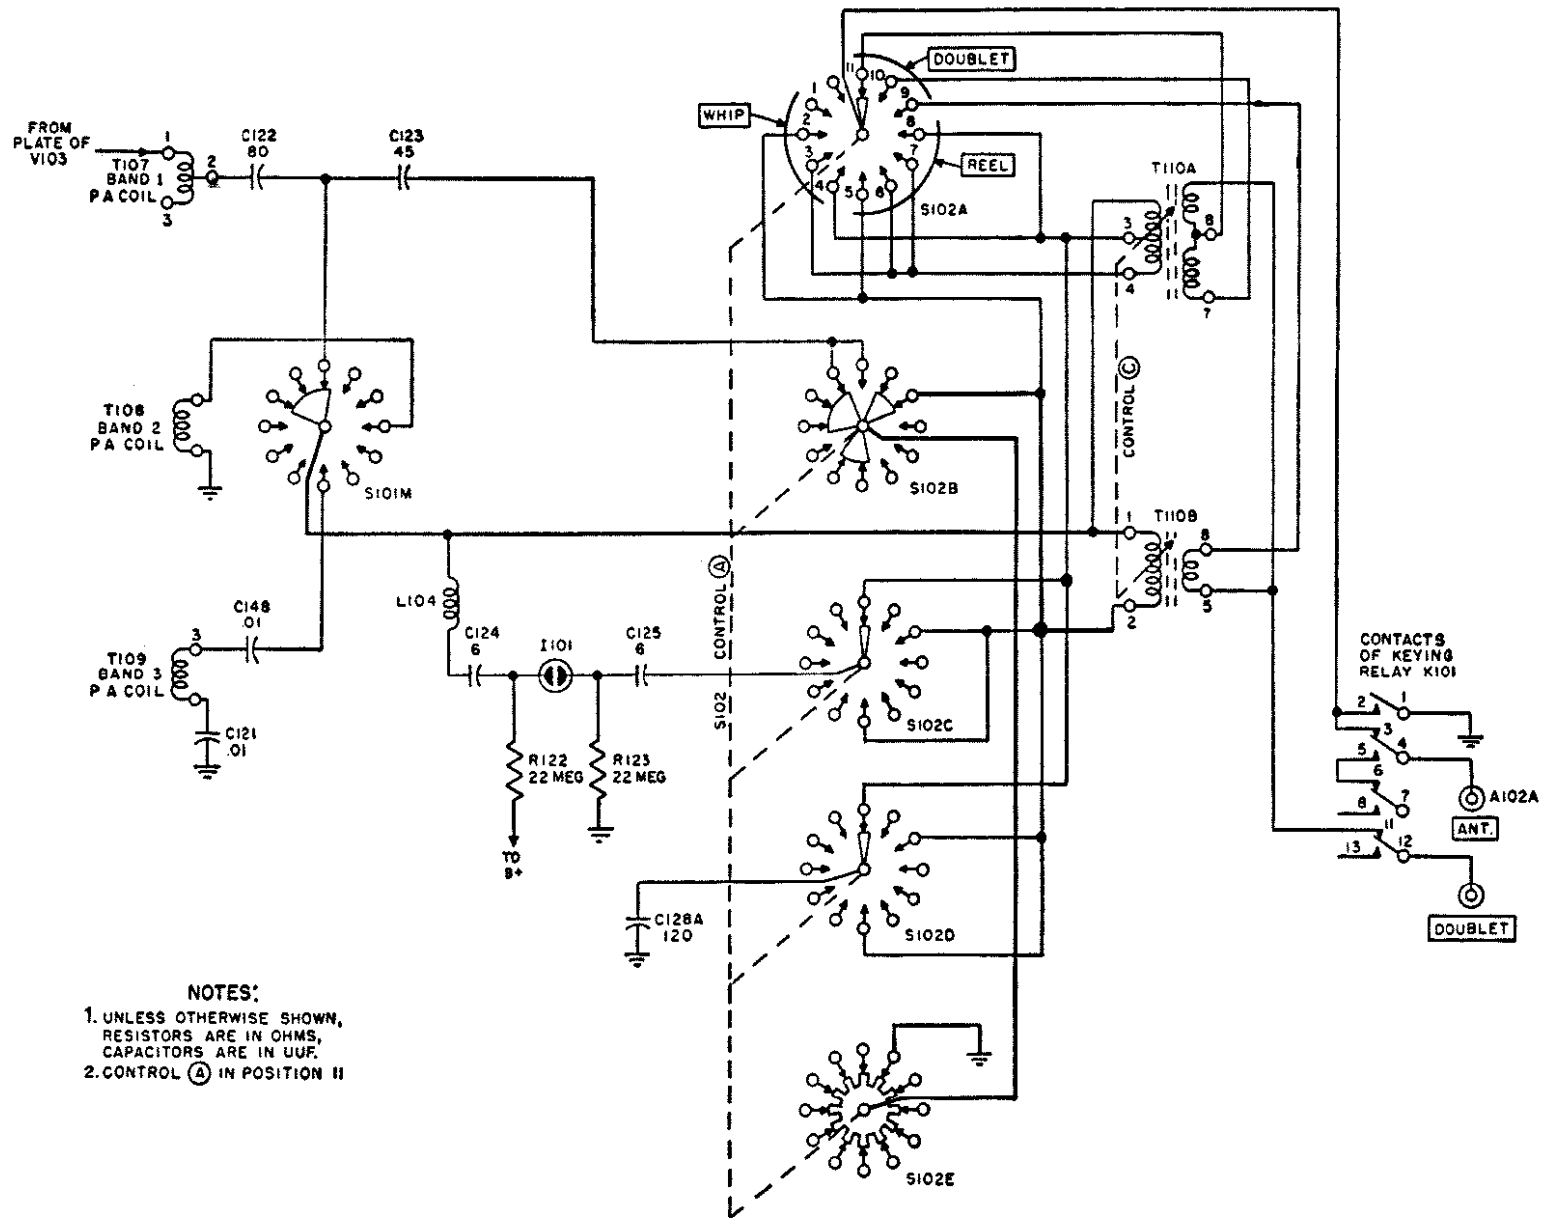

Figure 76. Antenna switching and tuning circuits for transmitter
94. Antenna Switching and Tuning Circuits for Transmitter (fig. 76)
a. There are 11 possible positions for ganged switch bank S102, control A (fig. 76). Only switches A through E enter into transmitter operation. Section F is for receiver operation only. These 11 different positions are necessary so that the antenna will be matched to the power amplifier output coil for maximum power transfer throughout the entire frequency range of the transmitter. The functions of the different switch positions are:
- (1) Positions 1, 2, 3, and 4 match the power amplifier coil to a vertical mast or whip antenna for all frequencies.
- (2) Positions 5, 6, 7, and 8 match the power amplifier coil to an end-fed antenna for all frequencies.
- (3) Positions 9, 10, and 11 match the power amplifier coil to a center-fed or doublet antenna for all frequencies.